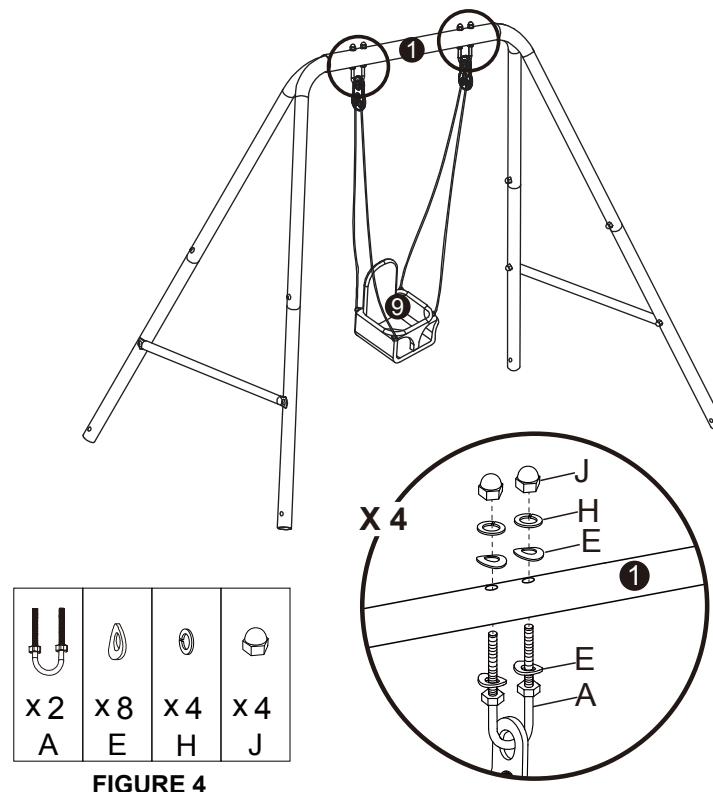

FIGURE 4
- Loop U-bolt (A) through the plate at the top of the swing and secure it to Beam (1) using E, H, and J in the sequence shown in FIGURE 4.